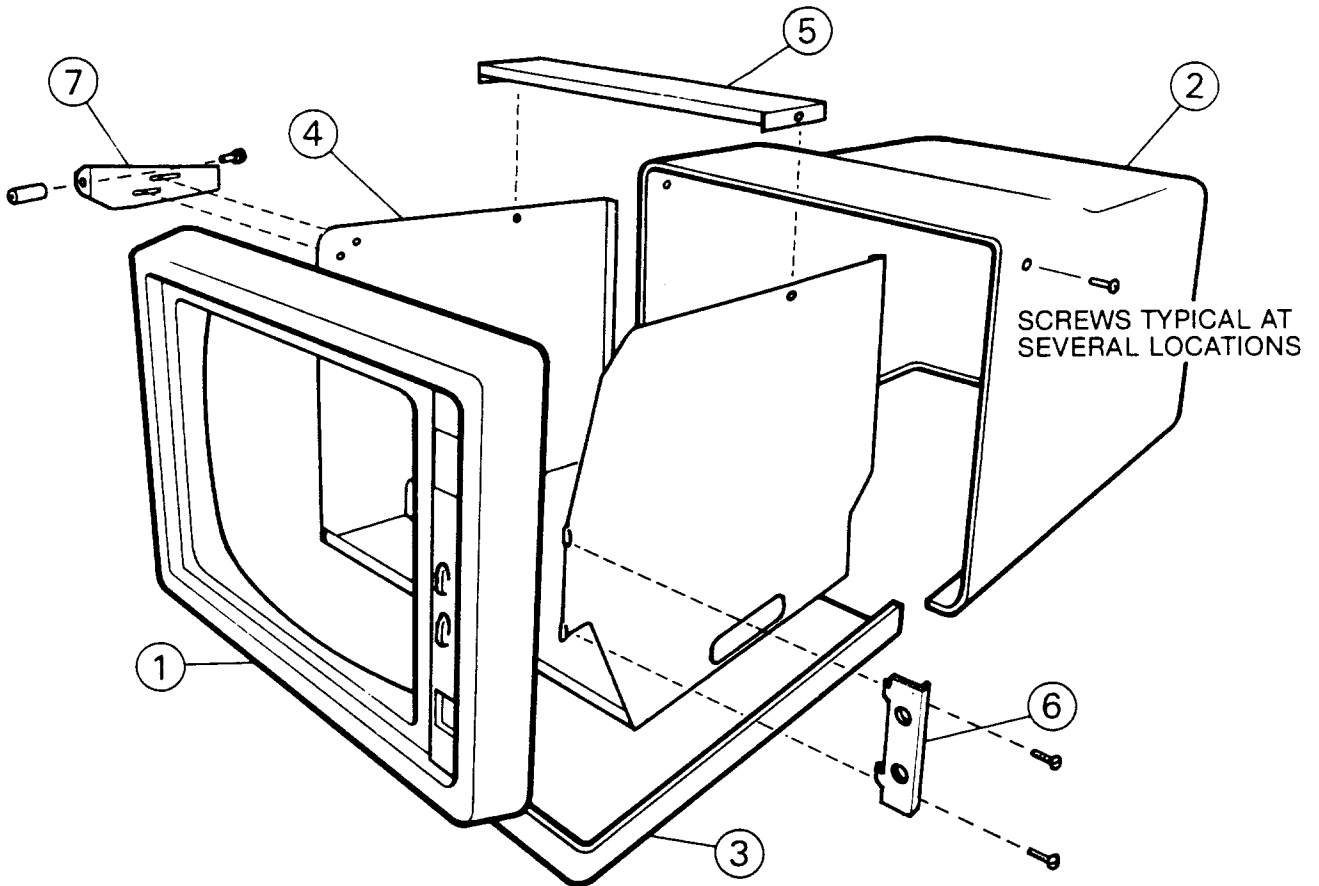

FIG T1 T SERIES EXPLODED VIEW
A general view of the cabinet assembly and exploded view of the chassis construction is shown in Figure T1, T Series Cabinet: Exploded View.
- 2 x Fixing Screws (A) from Cabinet Base
- 2 x Fixing Screws (B) from Cabinet Cover sides
- 2 x Fixing Screws (C) from Cabinet Cover back
3. Refer to Figure T1, T Series Cabinet: Exploded View for general construction and assembly details, and in relation to the notes following:
4. Refer to Figure T1, T Series Cabinet: Exploded View.
a) Unscrew fixing screw locating into the screwed bush at the top left-hand Stabilizer Bracket fixing point - item (7).
b) Remove: 2 x Fixing Screws - securing the R/H front of the Chassis Main Frame, item (4), to the Customer Controls Bracket, item (6).